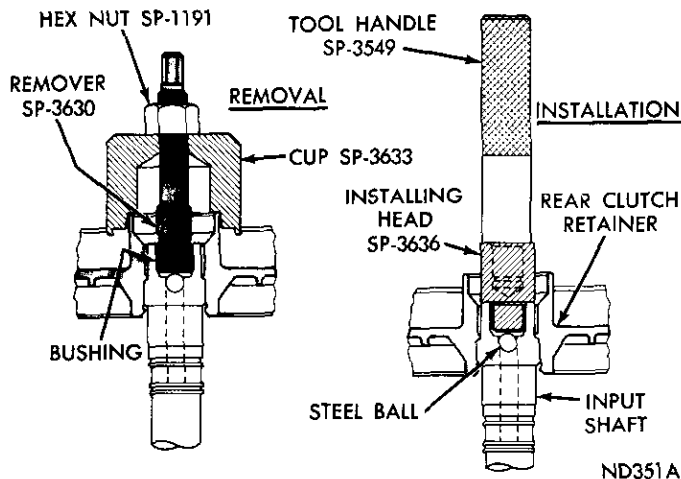

Fig. 69—Replacing Input Shaft Bushing (A-727)
- (1) Clamp input shaft in a vise with soft jaws, being careful not to clamp on seal ring lands or bearing journals.
- (2) Assemble remover Tool SP-3630, cup Tool SP-3633, and hex nut Tool SP-1191 (Fig. 69).
- (3) With cup held firmly against clutch piston retainer, thread remover into bushing as far as possible by hand.
- (4) Using a wrench, screw remover into bushing 3 to 4 additional turns to firmly engage threads in the bushing.
- (5) Turn hex nut down against cup to pull bushing from input shaft.
- (6) Thoroughly clean input shaft to remove chips made by remover threads. Make certain small lubrication hole next to ball in end of shaft is not plugged with chips. Be sure no chips are lodged next to the steel ball.
- (7) Slide a new bushing on installing head Tool SP-3636, and start them in the bore of input shaft.
- (8) Stand input shaft upright on a clean smooth surface and install handle Tool SP-3549 in the installing head (Fig. 69). Drive bushing into shaft until tool bottoms.
- (9) Thoroughly clean input shaft and clutch piston retainer before assembly and installation.